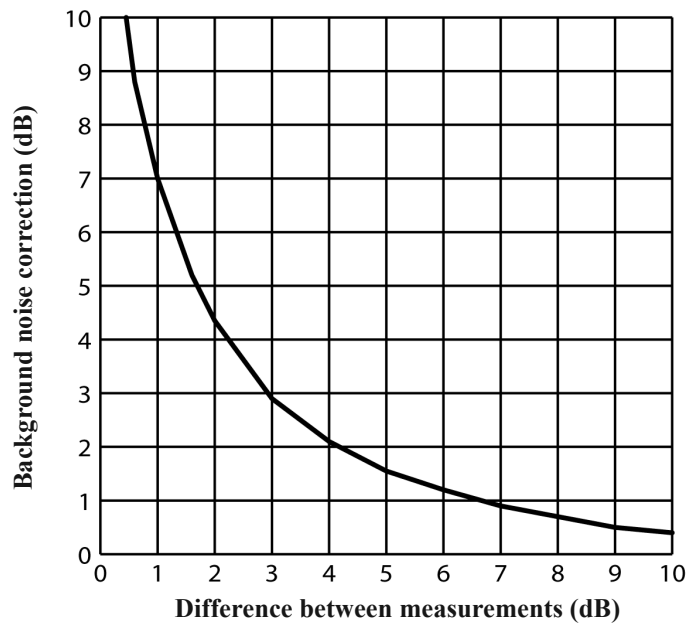

Figure 9-1: Background noise correction chart
4. Find that difference on the x-axis of Figure 9-1.